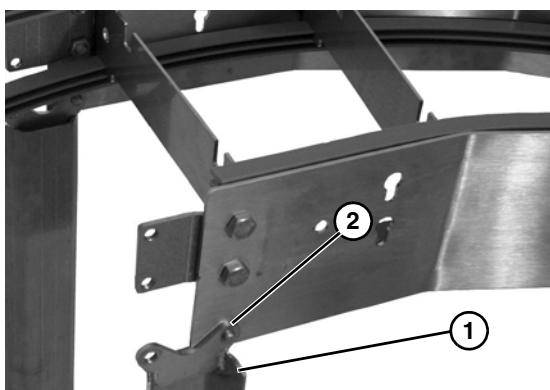

Figure 6
2. When attaching stand (**Figure 6, item 1**) to curved section on inside curve, make sure mounting hole on stand (**Figure 6, item 2**) is to the outside of curve section and head of bolt is on the inside of curve section.